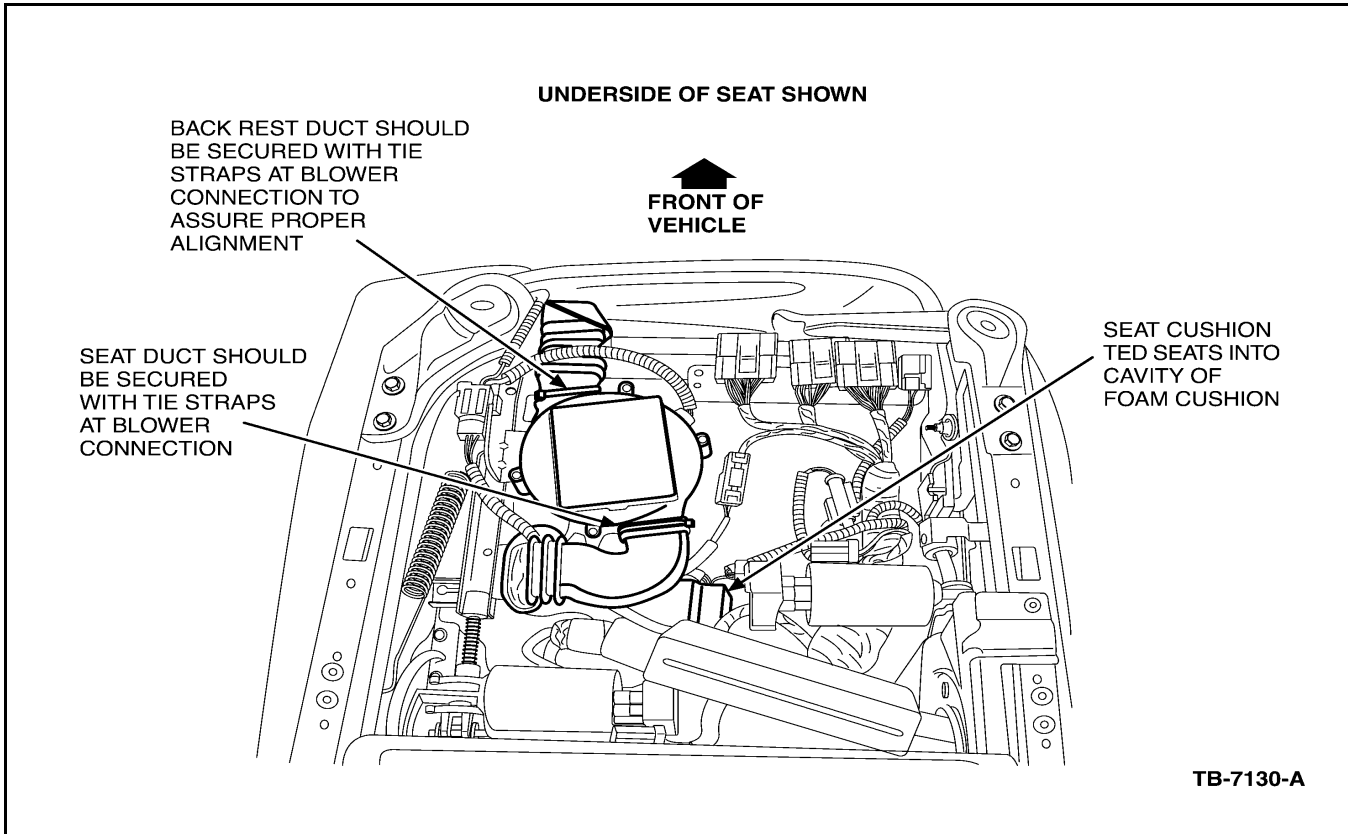

Figure 2 - Article 04-26-19
- Check the TED to make sure it is properly aligned. The underside of the seat cushion integrates a round cavity into which the TED must seat (see Figure 2). If the TED is misaligned or is incorrectly seated in the cavity, the seat may overheat and shut down.
- Check to make sure that the seat cushion ducts are properly fastened and aligned (see Figure 2). The cushion duct attaches to the blower with a cable (zip) tie. Make sure that this connection is secure.
Carefully reach under the seat to check to make sure that the seat backrest ducts are properly fastened and aligned (see Figure 2). The backrest duct attaches to the blower with a cable (zip) tie. Make sure that this connection is secure.